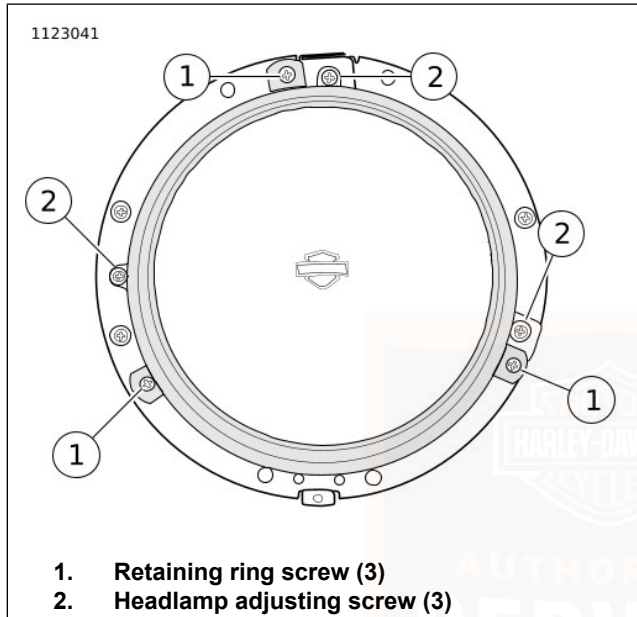

Figure 81. Headlamp Retaining Ring
3. See Figure 81. Remove screws (1) securing retaining ring.
2. See Figure 81. Secure headlamp assembly with retaining ring and screws (1). Tighten to 2.6–2.9 N·m (23–26 **in-lbs**).